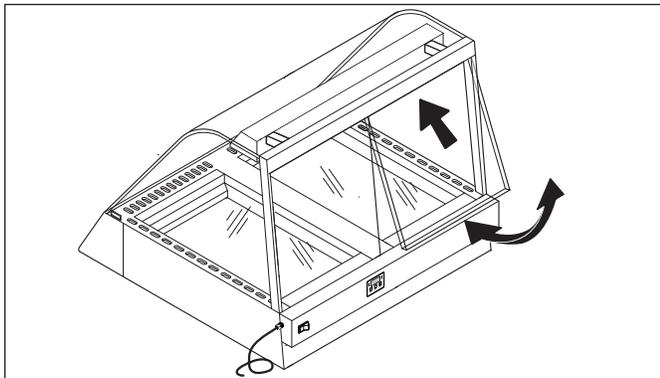

Figure 7. Rear Door(s) Removal/Installation
6. Firmly grasp the sides of one glass door. Lift the door up and out of the bottom track (Figure 7). Repeat for the other door.